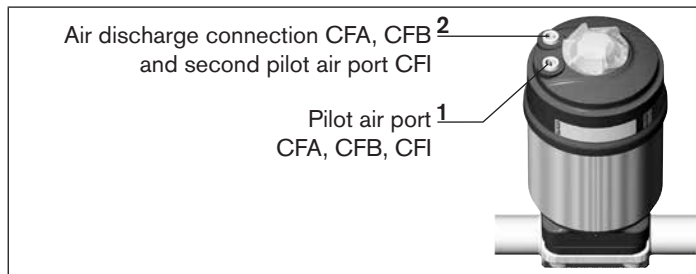

Fig. 10: Pneumatic connection
- Connect the control medium to the pilot air port 1 of the actuator (see “Fig. 10: Pneumatic connection”).
- Plug the silencer into the free air discharge connection 2 (see “Fig. 10: Pneumatic connection”).
- Connect the control medium to the pilot air port 1 and 2 of the actuator (see “Fig. 10: Pneumatic connection”)